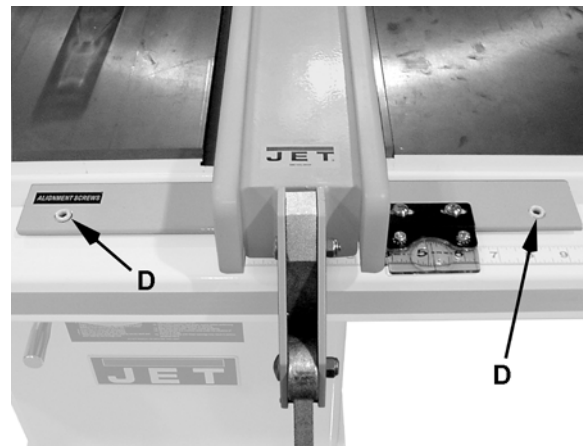

Figure 17
6. Raise or lower two nylon adjustment screws (D, Fig. 17) *the same number of turns* until the space between the bottom of the fence and the table is the same. Care must be taken to raise or lower the fence on each side equally or the fence may not be 90° to the table after the height adjustment is performed.